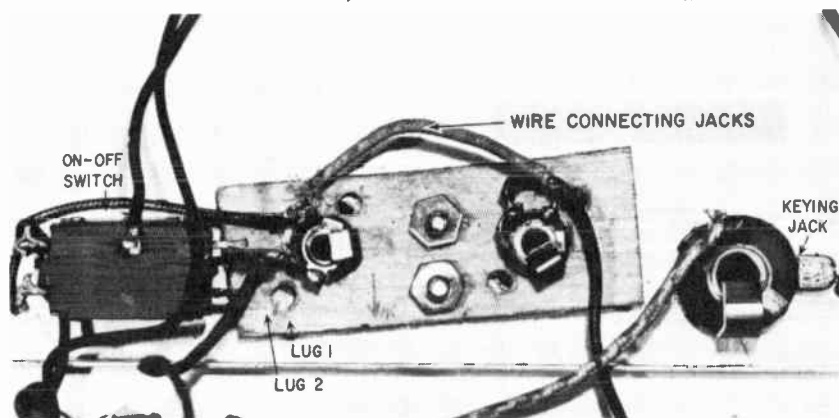

Fig. 714. The two metering jacks are connected by a wire. This wire is a temporary jumper only.
1. You may use an additional 67.5-volt battery in series with the previous two to have a still larger power output. The B-plus lead of the final tube is connected to the plus terminal of this third battery, while the oscillator B-plus is left at the junction of batteries 2 and 3. The jumper between the two jacks (Fig. 714) is removed from the oscillator jack and extended to become the final B-plus lead.